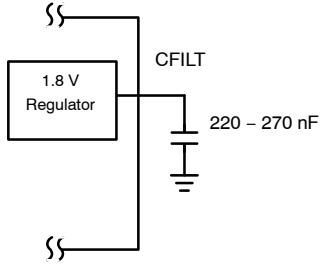

Figure 4. CFILT Capacitor
3. CFILT capacitor must be installed; see Figure 4.
4. Outputs loaded with 15 pF max to ground.  $C_{FILT}$  capacitor must be installed; see Figure 4.